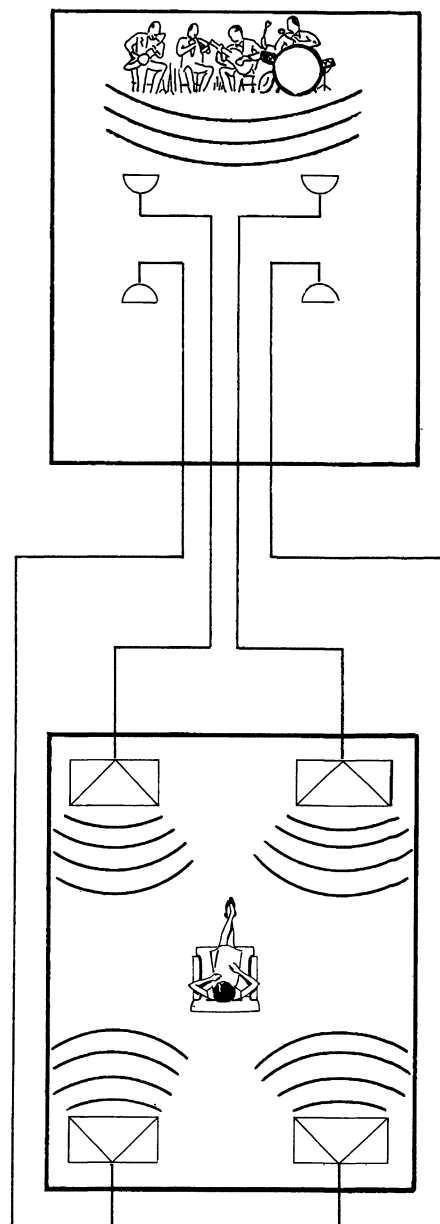

FIGURE 5
Since we have sounds in the four quarters of the room, what can be done with them? How can they be re-produced? Figure 5 illustrates four microphones, one in each quarter of the room. They in turn are "connected" to four loudspeakers in the listening room (one in each corner).
6. Place Decoder Speaker Assemblies in the rear corners of the room, pointing them to the front as shown in figure 5. (Note step 8 under "Decoder Operation").
In the event that you have, or may obtain a "Discrete Four Channel" source, such as a Four Channel Tape Player/Recorder, you should connect the Left-Front and Right-Front channels to the Left and Right tape inputs on your Main unit. Connect the Left-Back and Right-Back channels to the Aux inputs on the Decoder and place the Radio/Phono-Aux switch in the AUX position. This will provide four discrete reproduction channels, similar to figure 5, when the Decoder Switch is in the OFF position. Decoder Power Switch must be in the ON position.
While it is recommended that the speakers be positioned as shown in Figure 5 (Front speakers facing the rear of the room and the rear speakers facing the front of the room) it is possible that alternate speaker positions (see figure 13) may provide a more desirable sound for some FM broadcasts, tape, or records.